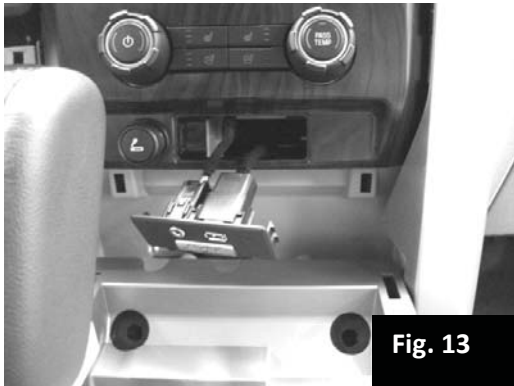

Fig. 13
21. Carefully pry loose the aux. input panel with a pick tool or small flat screwdriver, disconnect wiring and remove the screw retaining the radio bezel. Fig. 13